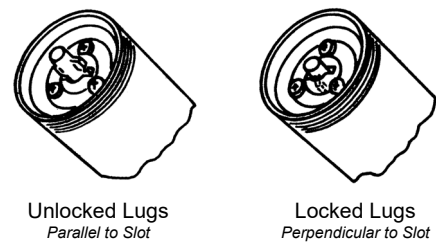

Figure 4
- 2) Unscrew Barrel and "Lock" Follower (Figure 4).
- 2) 'Lock' the follower to the follower rod (see Figure 4).